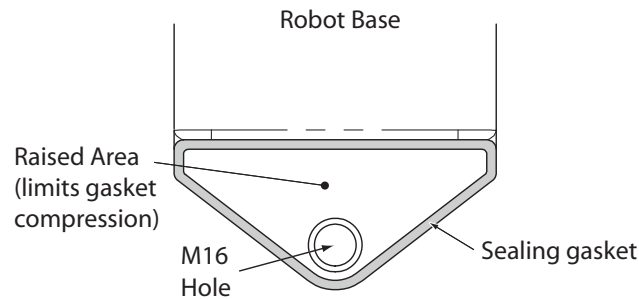

Figure 3-14. Robot Base Pad Sealing Gasket, Top View
2. Insert a base-pad sealing-gasket into the groove machined in each robot base mounting pad. The gasket and its positioning are shown in Figure 3-14.